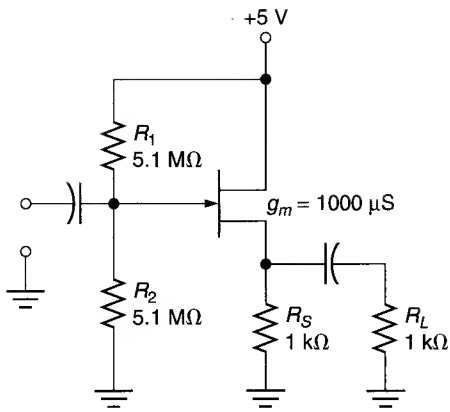

FIGURE 12.66
39. Determine the values of A_v , Z_{in} , and Z_{out} for the amplifier in Figure 12.66.